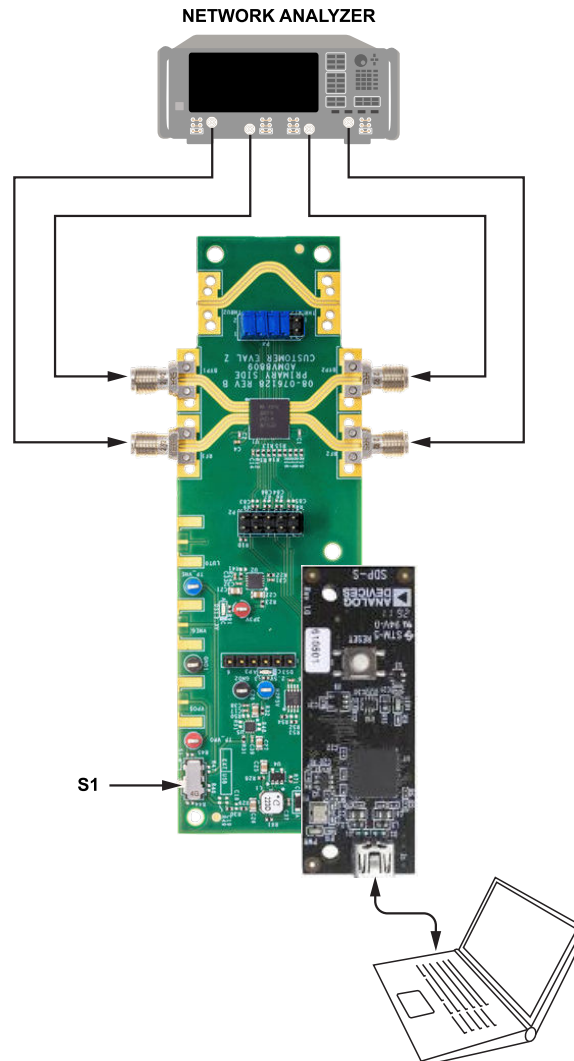

Figure 2. ADMV8809-EVALZ Lab Bench Setup
To power the ADMV8809-EVALZ by using the 5V USB supply, slide the S1 switch down (as shown in Figure 2) to power the on-board negative voltage generator and LDO regulators. Alternatively, the evaluation board can be powered externally by sliding the S1 switch up and then by connecting power supplies to the VPOS and VNEG
Figure 2 shows an example lab bench setup for the board. To observe the filter response from the ADMV8809-EVALZ, connect the RF1 and RF2 ports to a network analyzer (or similar instrument). Typically, these would be connected to ports 1 and 2 on the network analyzer, as shown in Figure 2.
1. Connect the RF1 and RF2 ports to a network analyzer (or similar instrument). Typically, these ports are connected to Port 1 and Port 2 on the network analyzer, as shown in Figure 2.
4. On the evaluation board ADMV8809-EVALZ, slide the S1 switch down (as shown in Figure 2) to select powering the device using the 5 V USB supply voltage from the PC via the SDP-S controller board.